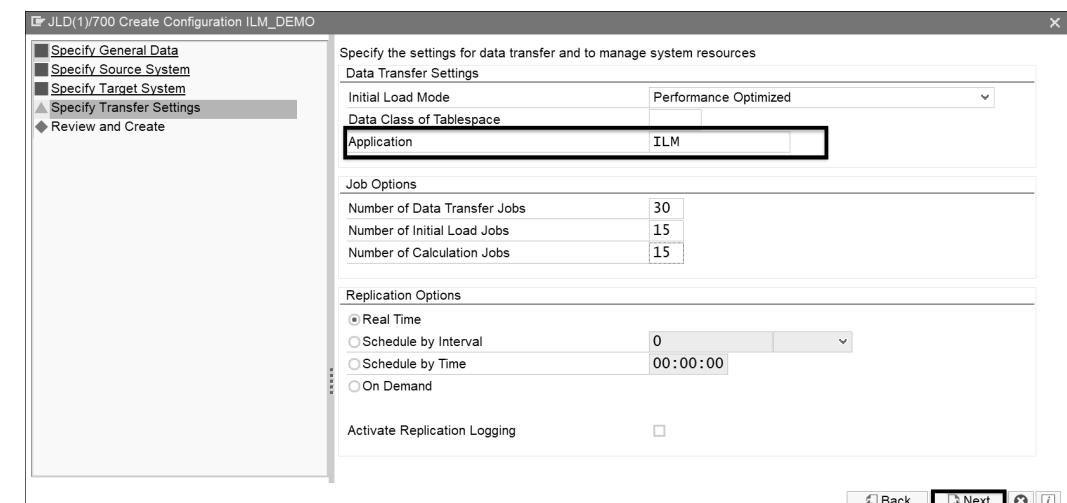

Figure 8.9 Creating a Configuration: Settings for Transfer
12. On the left side of the screen, the **Specify Transfer Settings** section is now highlighted (see Figure 8.9). Make settings here that correspond to the system resources for replication.